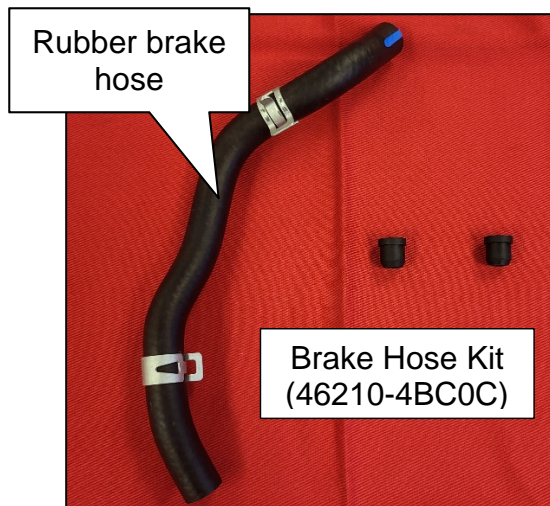

Figure 36
29. Remove the rubber cap on the reservoir port, and then install the new rubber brake hose from the brake hose kit, 46210-4BC0C (Figure 36), to the reservoir.
IMPORTANT: DISCARD the rubber brake hose in the brake booster assembly kit (47210-4BC8A), only use the rubber brake hose from the brake hose kit (Figure 36).